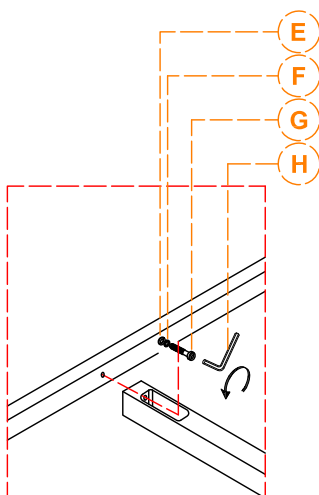

FIG. 3
4. Attach the Stretcher (5) with the Side Legs Assembly (3) using the JCBC Bolt M6 x 60 mm (G) with Flat Washer M6 (E) and Spring Washer M6 (F) Securely tighten with Allen Key 4 (H) as provided (FIG.3);